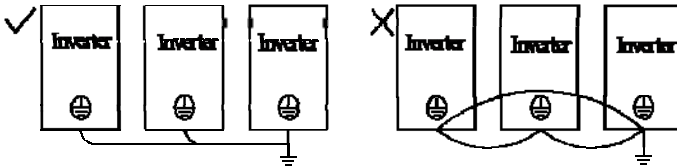

Figure 3-10 Grounding Wiring
- Do not form the grounding cable as a circuit whenever two or more inverters are used synchronously. See Figure 3-10 for the correct and incorrect grounding wirings.